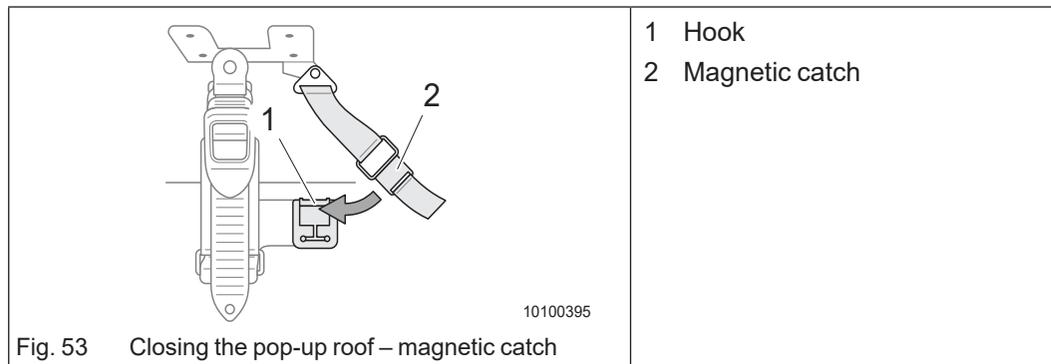

Fig. 53 Closing the pop-up roof – magnetic catch
- ➔ Hook in (Fig. 53/1) the magnetic catch (Fig. 53/2). If you can hear a clicking sound, the magnetic catch is inserted correctly.